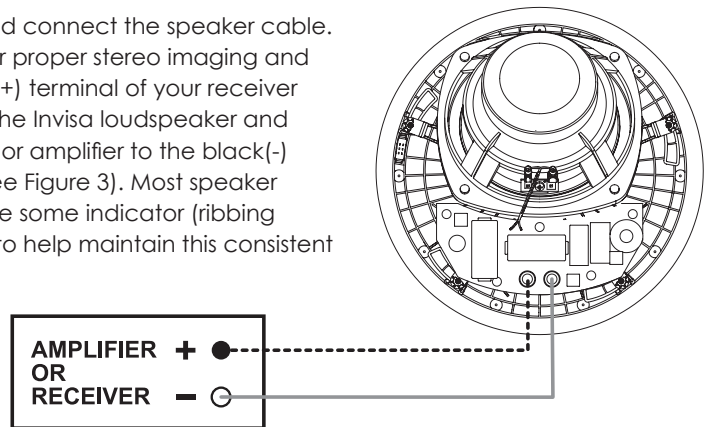

Figure 3
- Hold the speaker up to the cutout and connect the speaker cable. Proper polarity (or phase) is critical for proper stereo imaging and bass performance. Connect the red(+) terminal of your receiver or amplifier to the red(+) terminal of the Invisa loudspeaker and the black(-) terminal of your receiver or amplifier to the black(-) terminal of the Invisa loudspeaker (See Figure 3). Most speaker cables are either color coded or have some indicator (ribbing or writing) on one of the conductors to help maintain this consistent polarity. It is essential that all speakers be connected in the same way (in phase) to its own channel of the amplifier. If you experience a great lack of bass, it is likely that one speaker is out of phase(+ and – reversed) with the other.